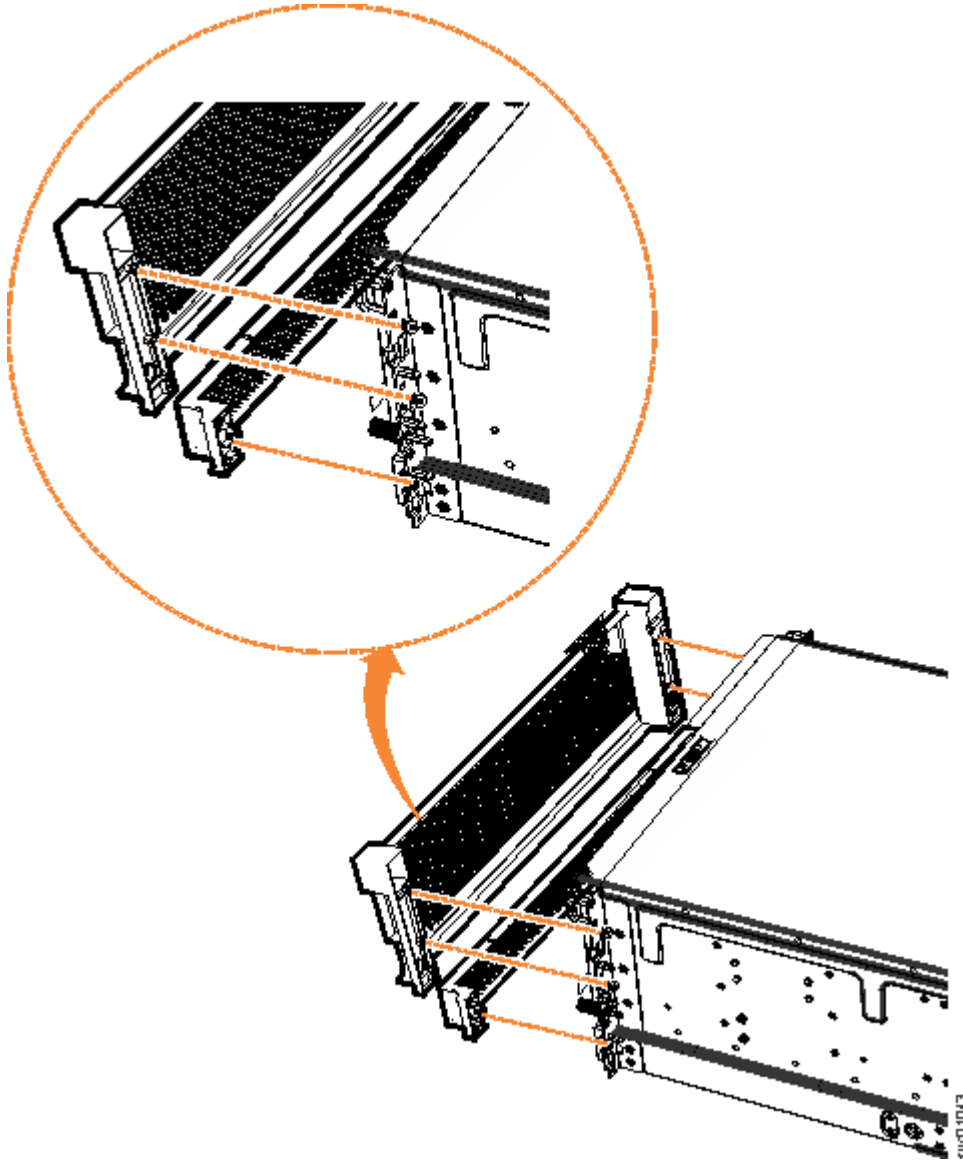

Figure 37. Replace fascia components on the expansion enclosure
1. Align the front 4U fascia with the enclosure so that the thumbscrews go through the holes on each side. As Figure 37 on page 44 shows, this action aligns the screw holes on the back of the fascia with the screw holes on the front flange of the enclosure.
3. Reattach the bottom 1U fascia that covers the power supply units (PSUs). Align the fascia with the enclosure and gently push it until it clicks into place on the chassis, as shown in Figure 37 on page 44.